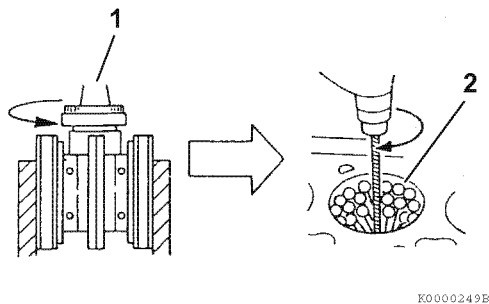

Figure 6-81
2. **Honing** - Minor cylinder imperfections may be corrected by using a rigid cylinder hone (**Figure 6-81, (1)**). Be sure not to exceed the maximum cylinder bore specification.
Deglazing - A used cylinder that did not require boring or honing, should always be deglazed with a ball hone (**Figure 6-81, (2)**) before installing new piston rings. This will properly prepare the cylinder surface to allow new piston rings to seat properly.
- Use a 300-grit hone at 300 - 1200 min⁻¹ (rpm) (**Figure 6-81**).